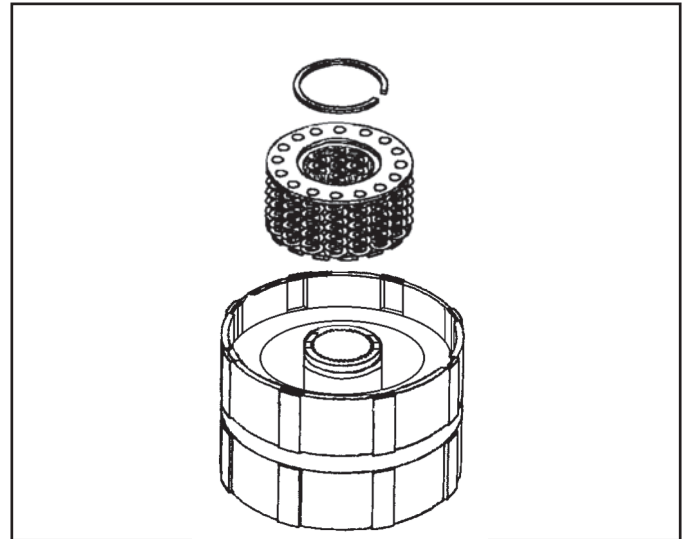

Figure 102
2. Install Saturn's spring return compression fixture (SA9146T) or equivalent and compress the spring. Use snap ring pliers to remove the retaining snap ring. Slowly release the spring tension and remove the fixture and spring assembly (See Figure 102).